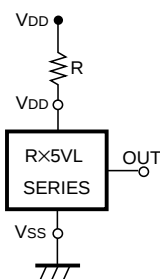

FIG.8
1. When R5VL×C (CMOS Output) is used in FIG. 8, this IC may oscillate by the through-type current at the detection when impedance is connected between Power Source VDD and R5VL VDD Pin. When R5VL×A (Nch Open Drain Output) is used in FIG. 8, and R becomes excessively large, Detector Threshold may be varied because of the voltage drop of the supply current in the IC itself.